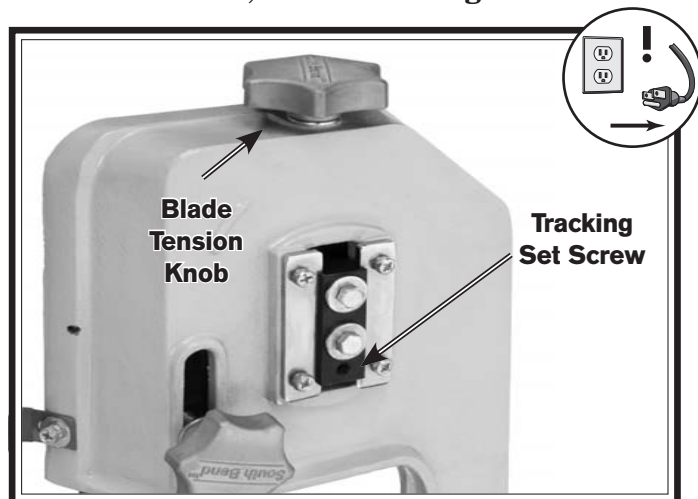

Figure 53. Adjusting tracking hex bolt.
5. Use the blade tension knob to release the blade tension, as shown in **Figure 53**.
6. Adjust the tracking set screw, as shown in **Figure 53**, then tighten the lower hex bolt loosened in **Step 4**.